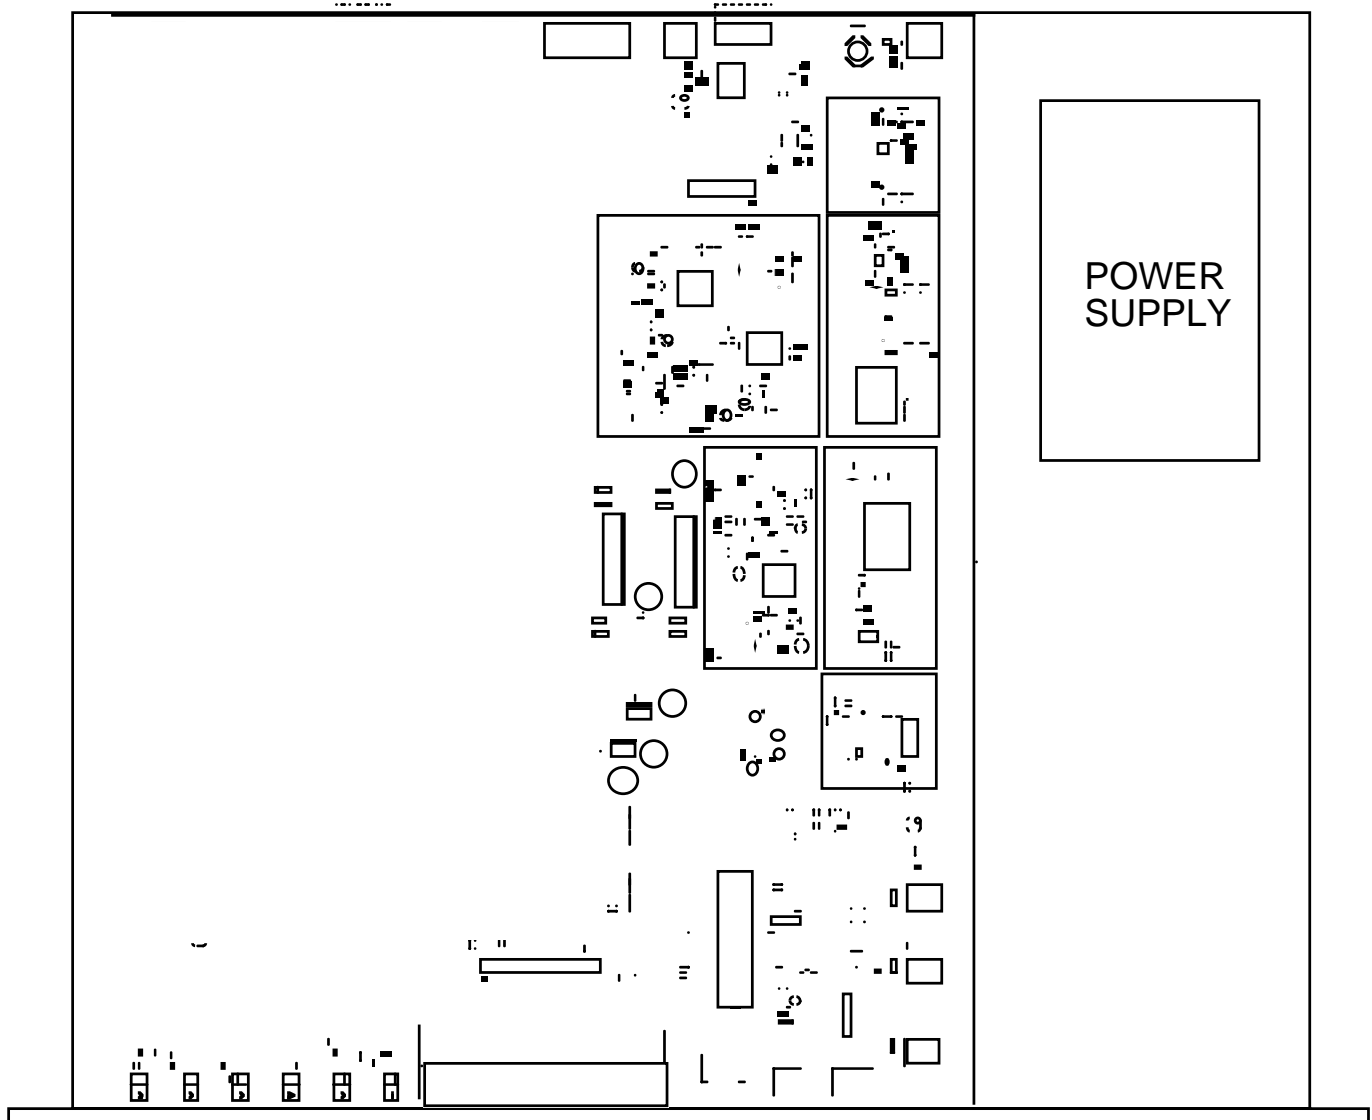

FIGURE 2.1 2083-1010 Mechanical Assembly
2.1 Mechanical - The 2083-1010 consists of one RF/Controller PCB housed in a 1 RU (1 3/4 inch high) by 16 inch deep chassis. A switching, ± 12 , +24, +5 VDC power supply provides power for the assemblies. The 2083-1010 can be secured to a rack using the 4 holes on the front panel. Figure 2.1 shows how the 2083-1010 is assembled.